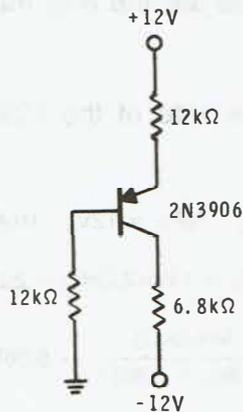

Figure E3-5
18. Figure E3-5 illustrates the complementary PNP circuit for the emitter bias circuit previously designed. As before, $I_{CQ} \approx 1\text{mA}$ and $V_{CEQ} \approx -6\text{V}$. Calculate the terminal-to-ground voltages. Record the calculated values in the appropriate column in Table E3-5.
19. Construct the circuit shown in Figure E3-5. Record your measured values of V_B , V_C , and V_E in Table E3-5.
In Figure E3-5, the collector-to-ground voltage, V_E is: